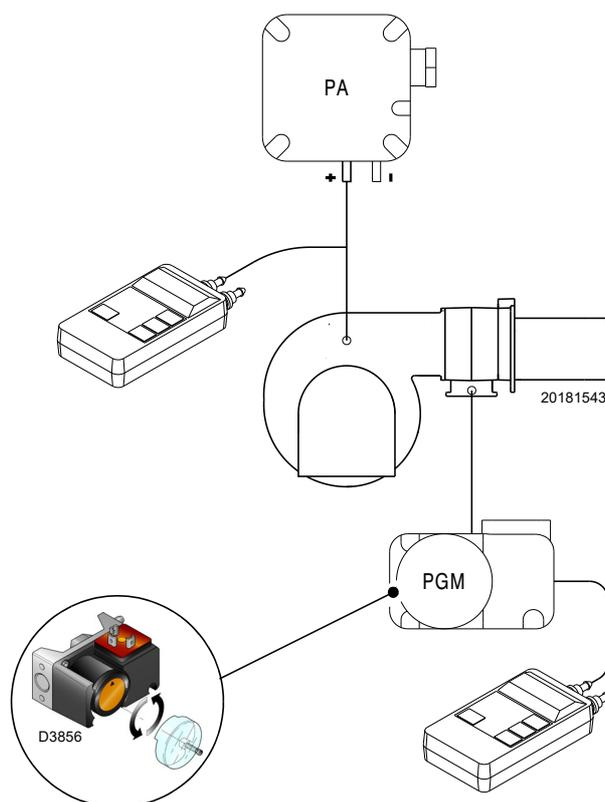

Fig. 33
- Adjust the maximum gas pressure switch (Fig. 33 at page 37) to the end of the scale.
Adjust the maximum gas pressure switch (Fig. 33) after making all other burner adjustments with the maximum gas pressure switch set to the end of the scale.